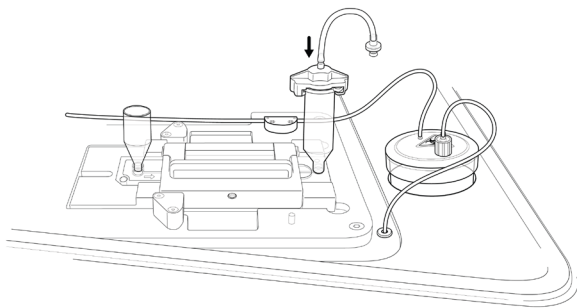

Fig. 28. Attach the Backflow Adaptor.
- Attach the Backflow Adaptor to the Genesis Priming Reservoir (Figure 28).